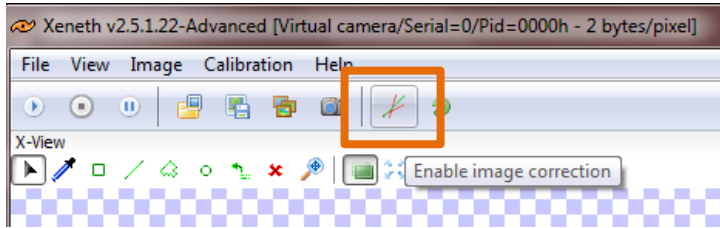

Figure 3-9 Enable image correction
- The correction can be enabled and disabled using the **enable image correction button** (see Figure 3-9).